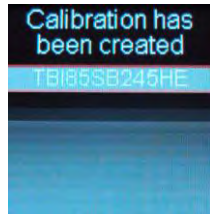

Figure 12
13. After entering the ignition type, your calibration will be created (Fig 12). Press the button on the handheld.